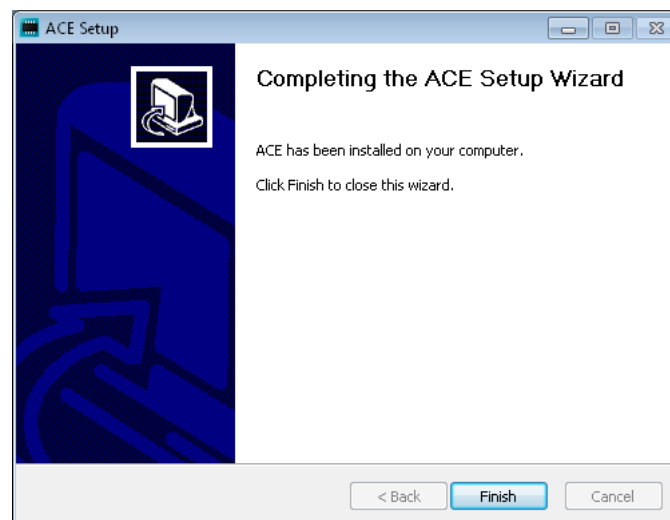

Figure 2.5: ACE Setup Wizard Step 5
**Step 5:** ACE is now installed, Figure 2.5. Click “Finish” to exit the wizard.